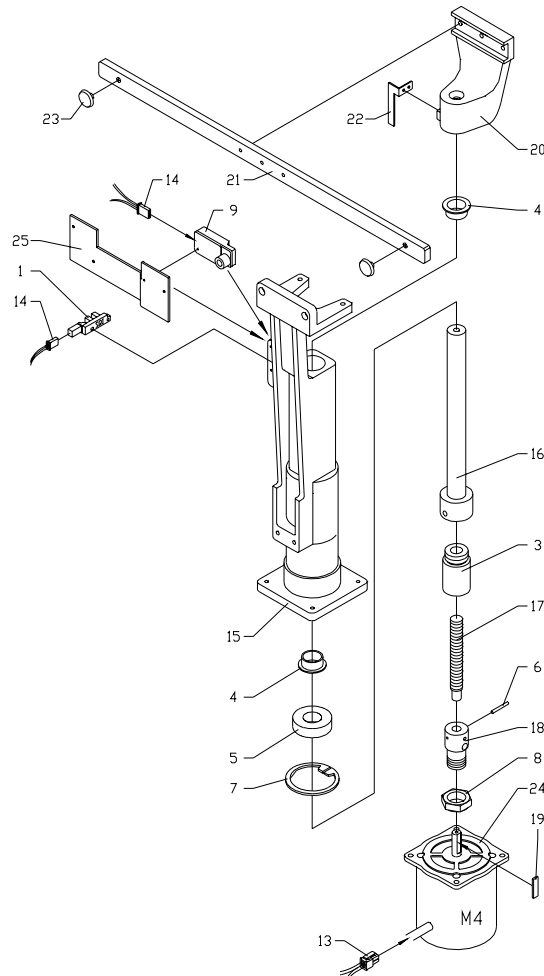

Figure 8-14
5. Remove the four bolts holding the T-bar mount (item 15 in Figure 8-14) to the side clamp linear actuator case.